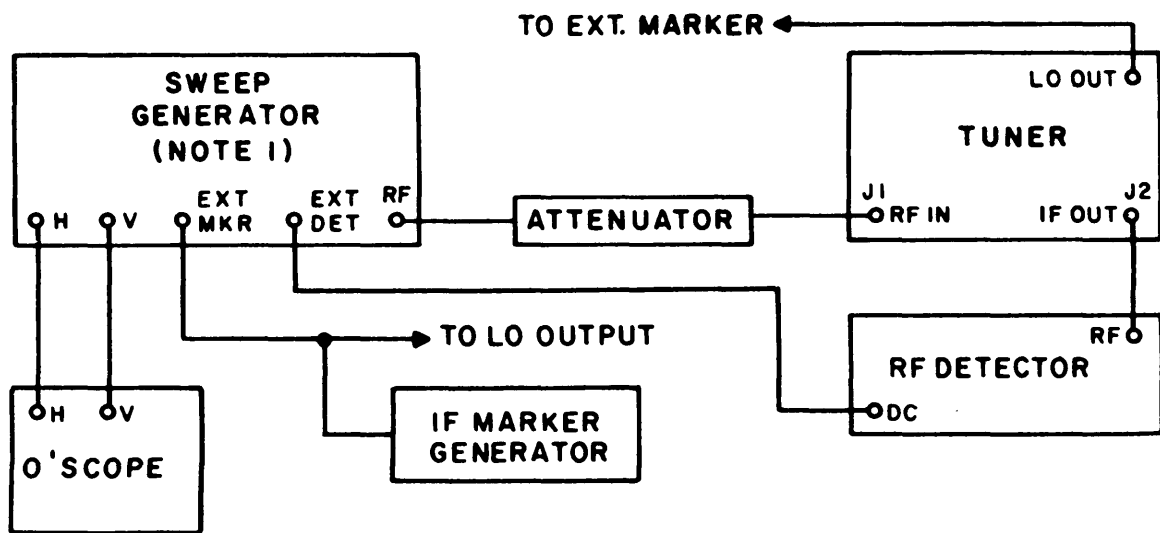

Figure 4-8. Test Setup, 80-250 MHz Tuner, Mixer Alignment Circuit Connection
- (1) Connect the circuit as shown in Figure 4-8.